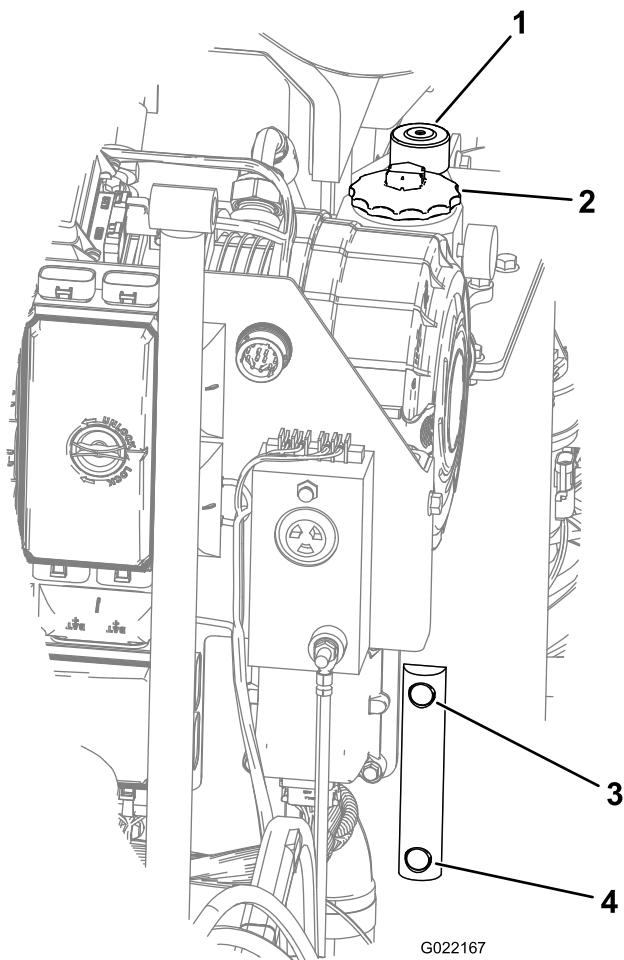

Figure 108
4. Look at the sight gauge on the hydraulic tank and check the level of the oil (Figure 108).
5. If the level is low, open the hydraulic-tank cap, add a small amount of oil and wait 2 minutes for the oil level to stabilize in the sight gauge (Figure 108).
6. Continue to add the appropriate fluid in small increments until it reaches Full on the sight gauge (Figure 108).